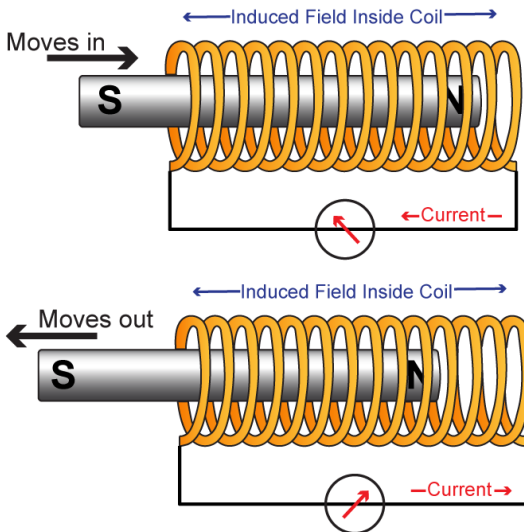

Figure 1
- 3** Other variables that affect the performance of air core solenoids is the type of materials that the core is made of. Students can use different rods in the air core and varying the current or voltage to investigate the performance of the solenoid. Using a magnet for a core gives the potential to push or pull by changing the polarity of the current. (See Fig. 1 on page 6)